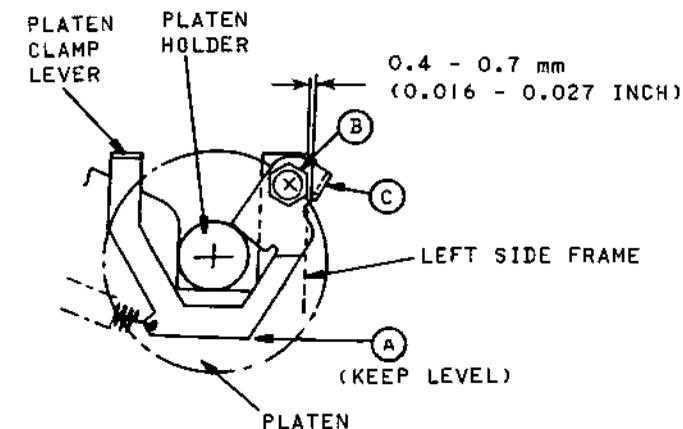

Figure 5-9 Platen Clamp Lever Adjustment
- a. With the platen mounted in place, bring the bottom A (Figure 5-9) of the platen clamp lever to a level position by turning the eccentric bushing B.